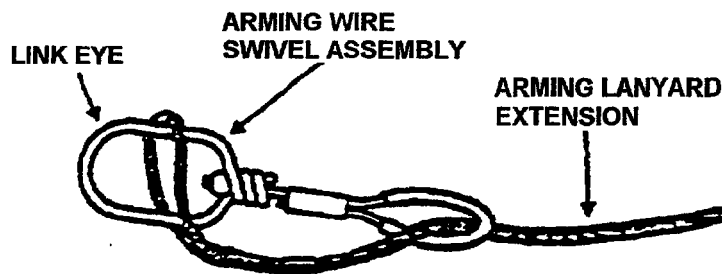

Figure 4-16D. Swivel Assembly Installation
- (1) Obtain red-coated Kevlar lanyard extension from pocket of warning flag.
- (2) Attach the lanyard extension to the swivel assembly as shown in Figure 4-16D; then pull connection tight.
- (3) Pass straight end of arming wire through the other uncoated looped end of the lanyard extension.